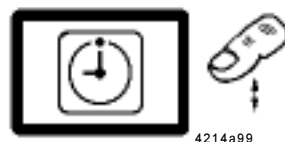
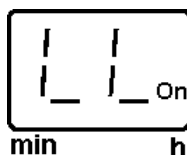

Fig. 30 - Acknowledging a flashing fault signal „LL“
Fig. 31 - Acknowledged fault signal „LL“
- * Before filling the reservoir, press the key, fig. 30, to acknowledge the low-level indication.
- By pressing the key (fig. 30) the flashing light * LL * is changed into a continuous light (fig. 31).